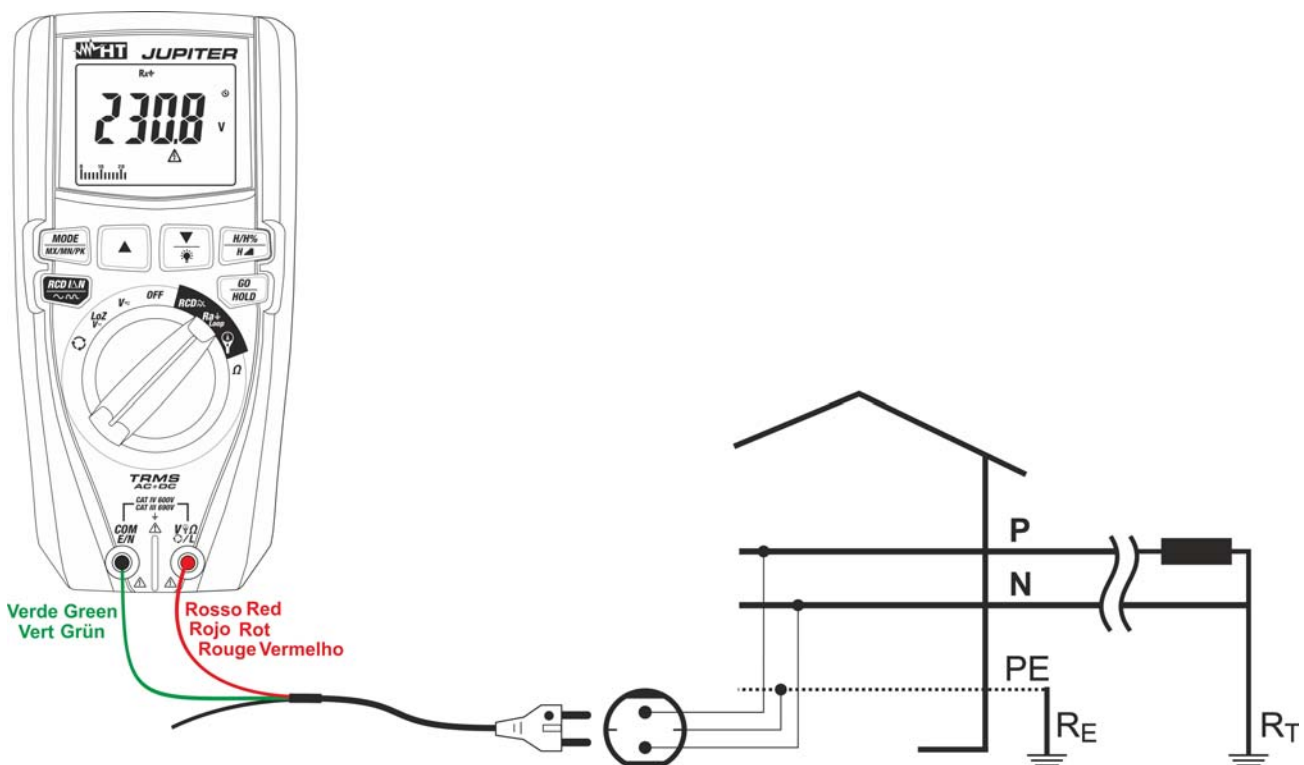

Fig. 23: Use of the instrument for measuring Loop L-PE impedance with cable provided with Schuko plug
5. **For Loop L-PE measurements**, in case the cable with Shuko plug is used, insert the red conductor into input terminal **V Ω /L** and the green conductor into input terminal **COM/E/N** and connect the instrument to the system to be tested (see Fig. 23). The value of voltage Phase-Earth is shown on the display